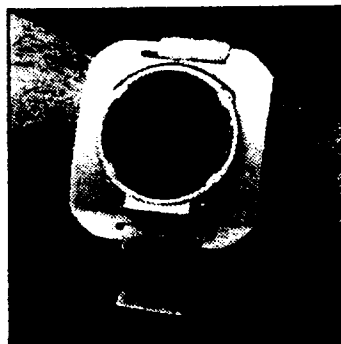

Fig. G.3
- d. Using a soft cloth, tissue, paper towel or a cotton swab, gently clean the skin area at the treatment site to remove the coupling gel. Remove any gel that may have accumulated on the RAF as this may cause difficulty in locking the THM in the RAF (Fig. E.9). Verify that the spring is in the proper position as shown in Fig. G.3, page 12.
- c. For your daily treatment with the SAFHS® device, use the RAF with the attached Velcro® strap and secure the RAF over the nonunion site with the circular opening in the RAF centered over the treatment area indicated by your physician. This allows you to look through the hole in the RAF to make sure that it is correctly placed at the treatment site (Fig. G.3).